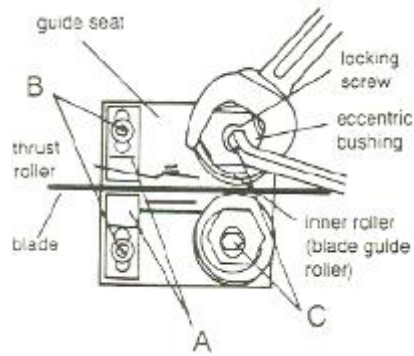

Fig 8
Loosen blade guides (A, Fig 8) by loosening screws (B). Slide blade guides away from the blade.